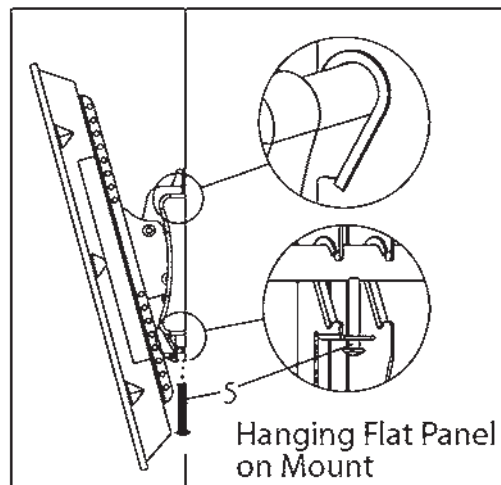

Fig. 4b
3. Rotate the display to let the brackets hook over the bottom bar of the mount. Then install a safety bolt (5) into the lower end of each bracket to lock the television in place (Fig 4b).